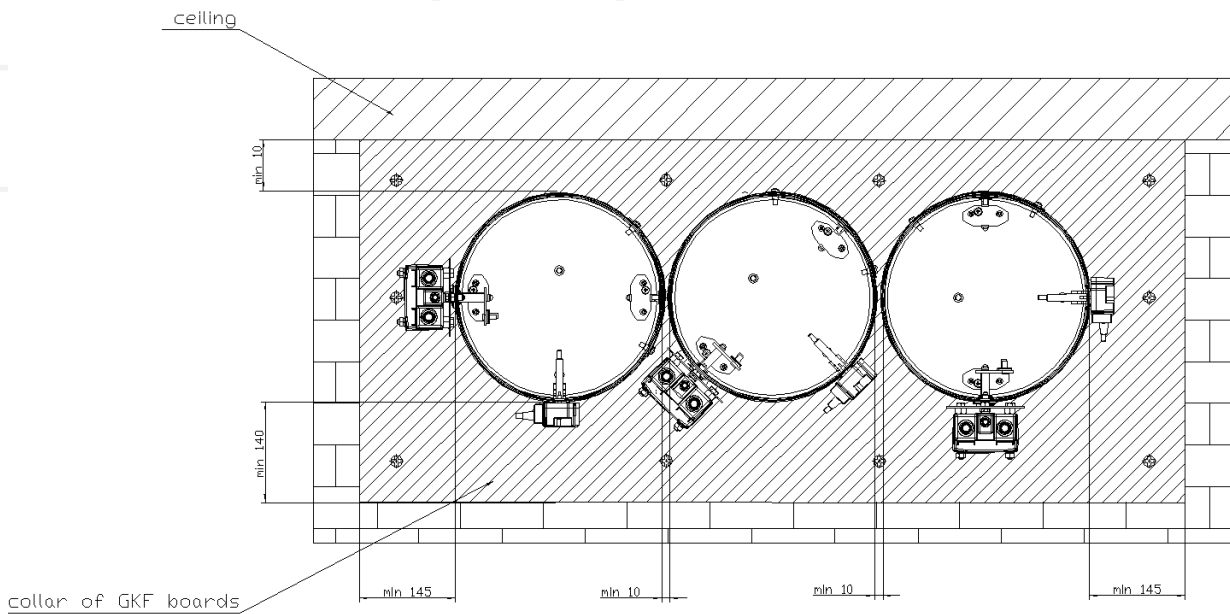

Figure 18. Installation method of KTM-O with minimum distances from adjacent fire dampers and from the ceiling.
- Put the closed fire damper into the installation opening and support or suspend, in this way that an axis of the fire baffle matches the axis of the wall (Fig. 18), and ensure a concentricity of fire damper and installation opening.
- Install using screws, on the actuator side a collar made of GKF boards 15 mm thick with the resulting dimensions (Fig. 18, 20, 22, 24) depending on the number of fire dampers and the distance from the ceiling and/or wall (with the opening for the fire dampers. For simple assembly, the frame can be made of two parts.